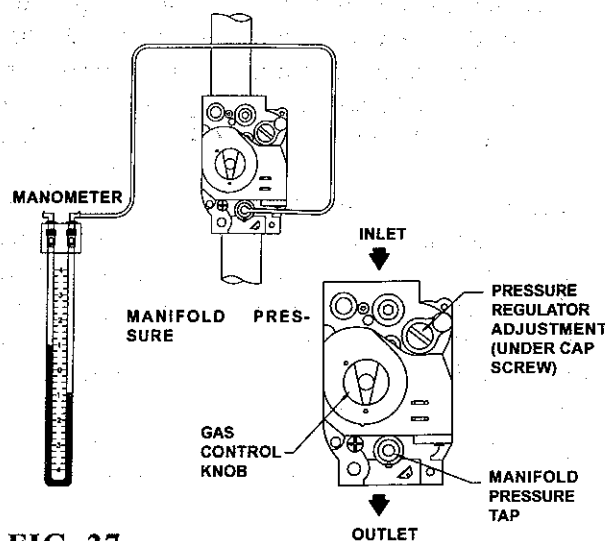

FIG. 27
11. Remove the 1/8" hex plug, located on outlet side of the gas valve and install a fitting suitable to connect to a manometer or magnahelic gauge. See Fig. 27. Minimum range of scale should be up to 5" w.c. for natural gas and 10" w.c. for propane gas.